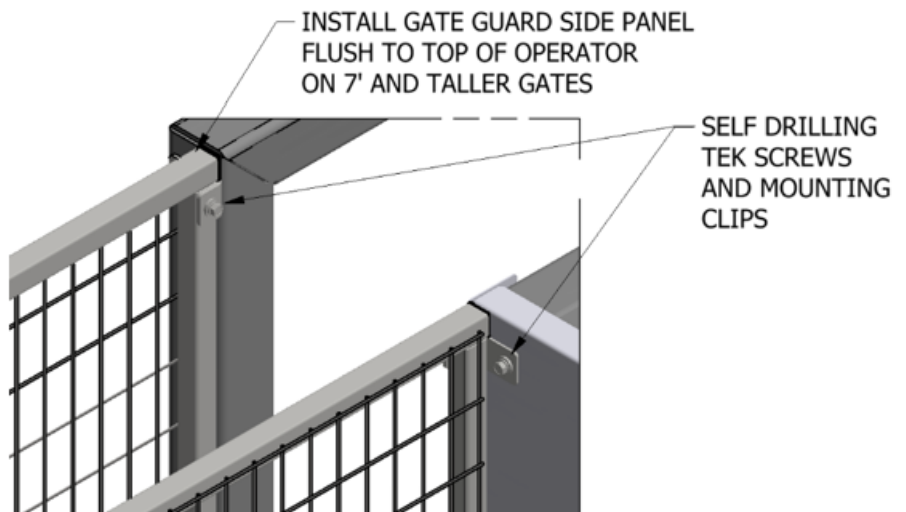

Figure 5
- Install (2) Mounting Clips to each of the (2) Gate Guard Side Panels just inside of the top and bottom tube using Tek Screws (1 per Clip) as shown in **FIGURE 5**.
- Align Gate Guard Side Panel flush to the top of the Operator as shown in **FIGURE 5**.
- Secure Gate Guard Side Panels to the Operator using (4) Tek Screws through the holes in the Operator Skin as shown in **FIGURE 5**.